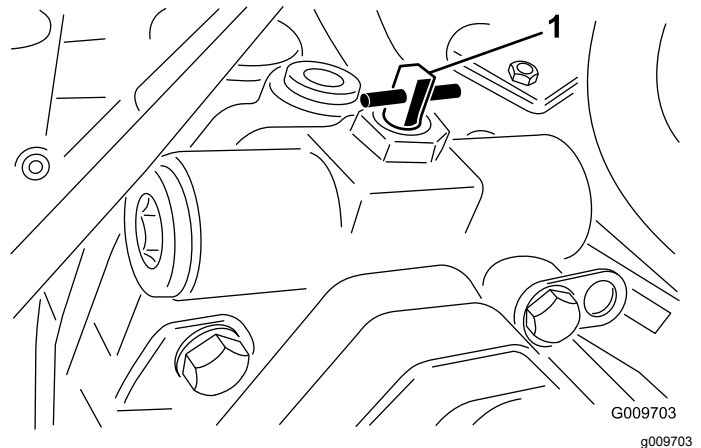

Figure 91
6. Close the tow bypass valve by rotating it back 90° (1/4 turn) before starting the engine. (Figure 91).